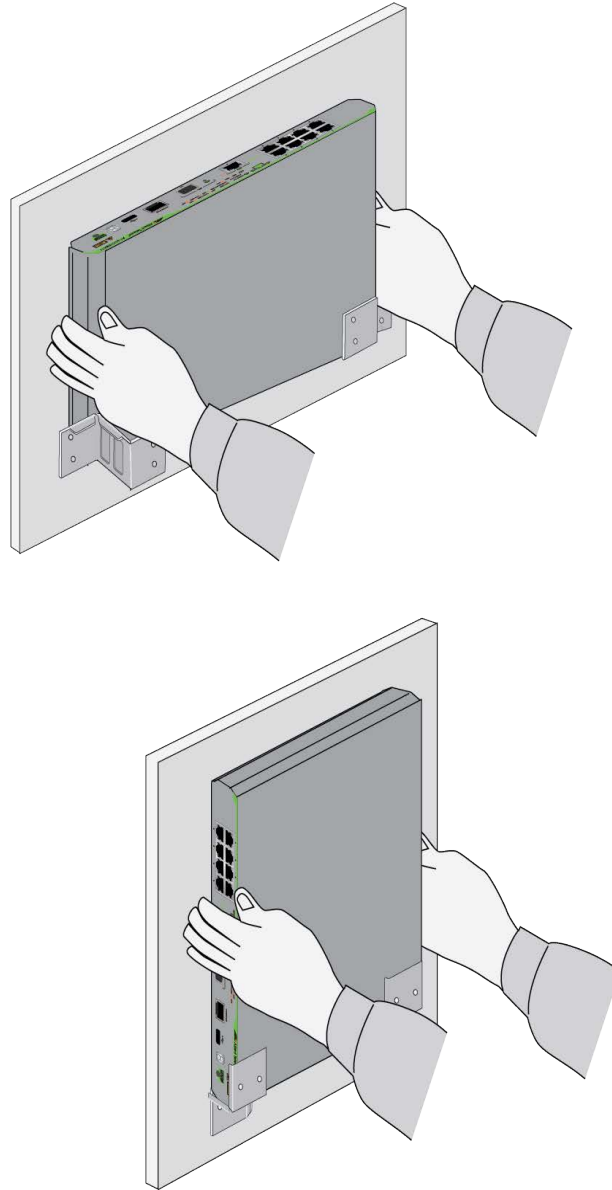

Figure 53. Sliding the Switch into the BRKT-J23 Brackets
10. Slide the switch into the BRKT-J23 brackets. Refer to Figure 53.